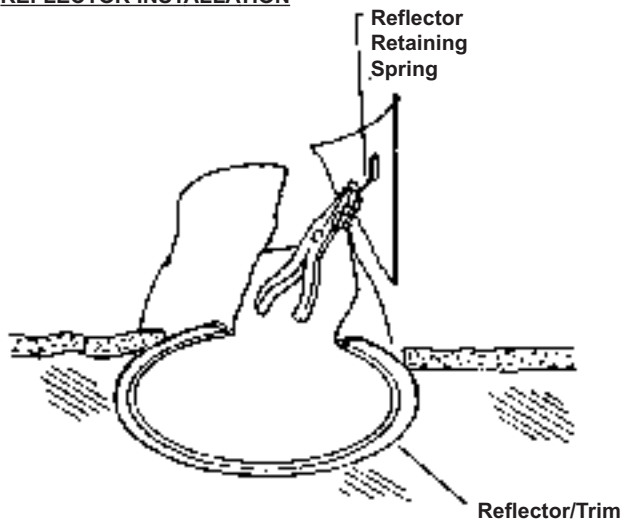

Fig. 10
2. Pull springs up & hook through slots in housing. (Fig. 10)